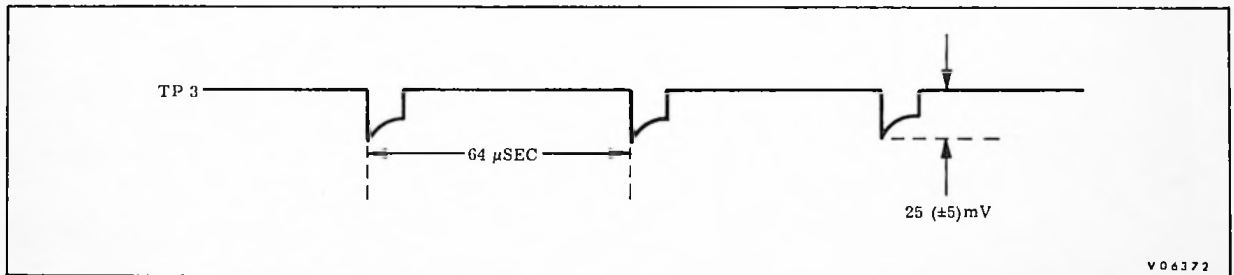

Figure 5.2-14. Ramp Generator Balance Adjustment
- e. Adjust R38 for zero slope. The waveform should resemble Figure 5.2-14.